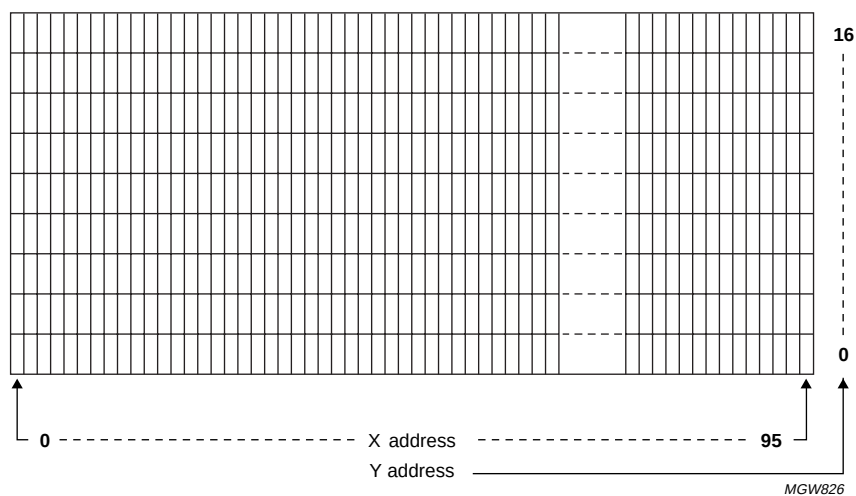

Fig.6 RAM format addressing (MY = 1).
- When MY = 1, the Y address space is mirrored; the address Y = 0 is then located at the bottom of the display (see Fig.6)